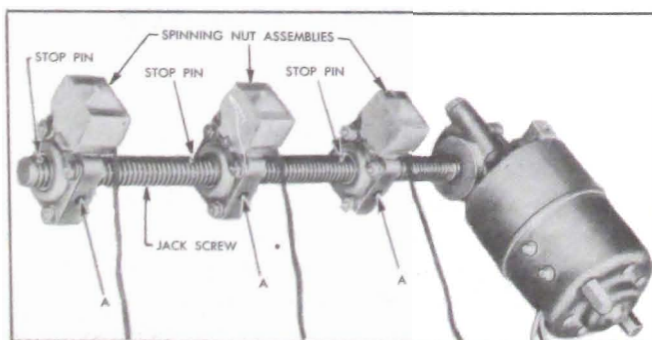

Figure 13-83—Six-Way Seat Actuator Assembly
2. As a bench operation carefully drive spinning nut stop pins, shown in Fig. 13-83, out of jack screw.
3. Insert a drift punch or a suitable tool into spinning nut frame mounting hole "A", shown in Fig. 13-83; rotate spinning nut frame slowly until drift punch engages in locking notch of spinning nut, then unscrew complete spinning nut assembly from jack screw.